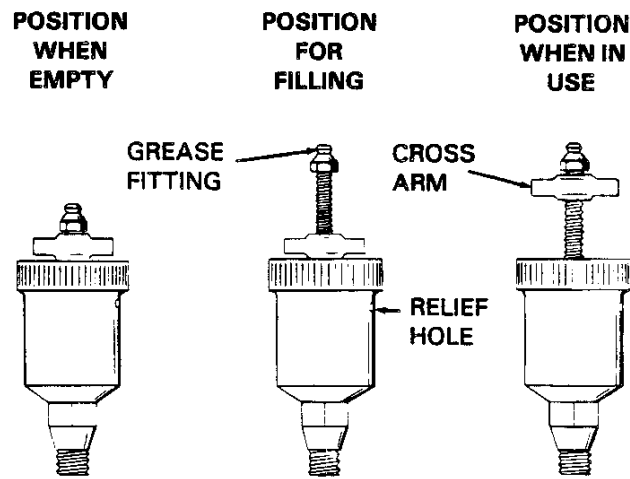

Figure 5. Automatic Lubricating Grease Cup
Fill the grease cup (59) through the grease fitting with No. 2 lithium base grease until grease escapes from the relief hole. Turn the grease cup arm counterclockwise until it is at the top of the stem; this will release the spring to apply grease to the seal (see Figure 5).